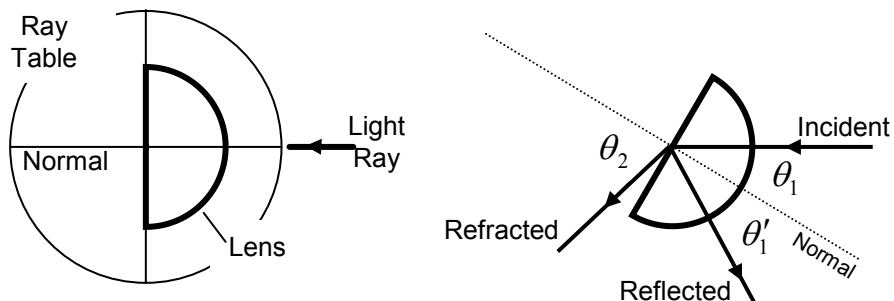

Figure 4: Apparatus Alignment
- Arrange the apparatus as shown in *Figure 4*. Note how the semicircular plastic lens has been rotated 180°.